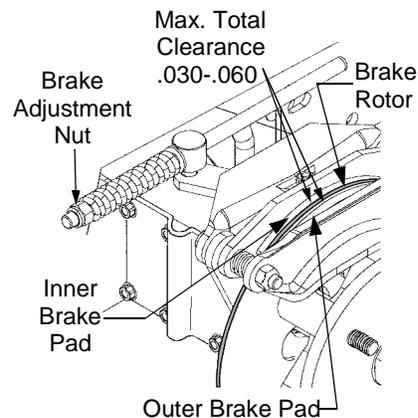

Figure 15
**NOTE:** Figure 15 is shown with the right rear wheel removed for clarity. Although not necessary for adjustment, removal of the wheels will ease the checking procedure.
- Accessing the brake adjustment nut from the rear of the tractor, beneath the fender, turn the nut clockwise to tighten and counterclockwise to loosen the brake assembly. See Figure 15.